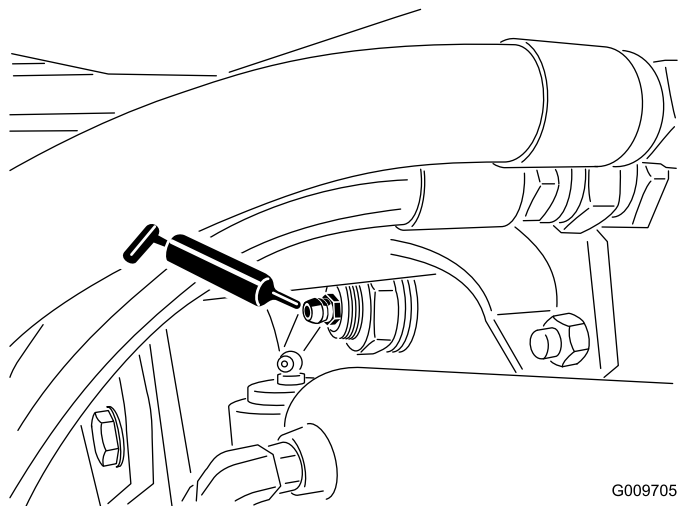

Figure 24
- Rear axle pivot bushings (2) (Figure 24)